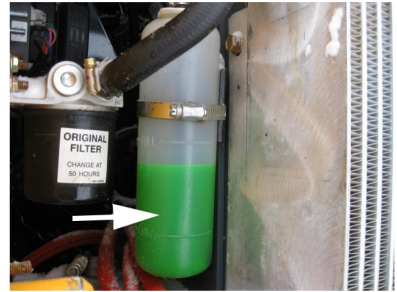

Figure 21 Coolant Recovery Tank
1. With the engine at operating temperature, open the engine cover. Looking at its plastic coolant recovery tank, check that the coolant tank fluid is half way up on the recovery tank, between full and low markings on the coolant tank (Figure 21).